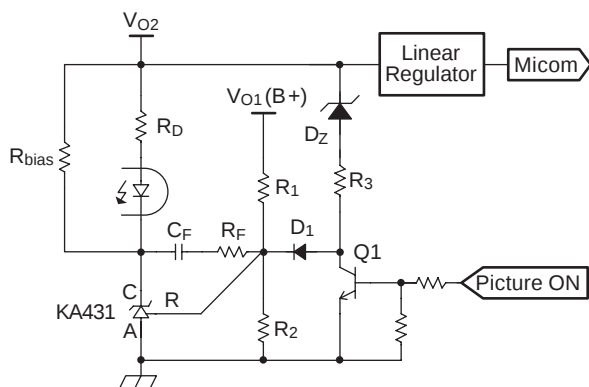

Figure 15. Typical Feedback Circuit to Drop Output Voltage in Standby Mode
6. Burst Operation: In order to minimize the power consumption in the standby mode, the FSCQ-Series employs burst operation. Once FSCQ-Series enters into the burst mode, FSCQ-Series allows all output voltages and effective switching frequency to be reduced. Figure 15 shows the typical feedback circuit for C-TV applications. In normal operation, the picture on signal is applied and the transistor Q_1 is turned on, which decouples R_3 , D_z and D1 from the feedback network. Therefore, only V_{o1} is regulated by the feedback circuit in normal operation and determined by R_1 and R_2 as: